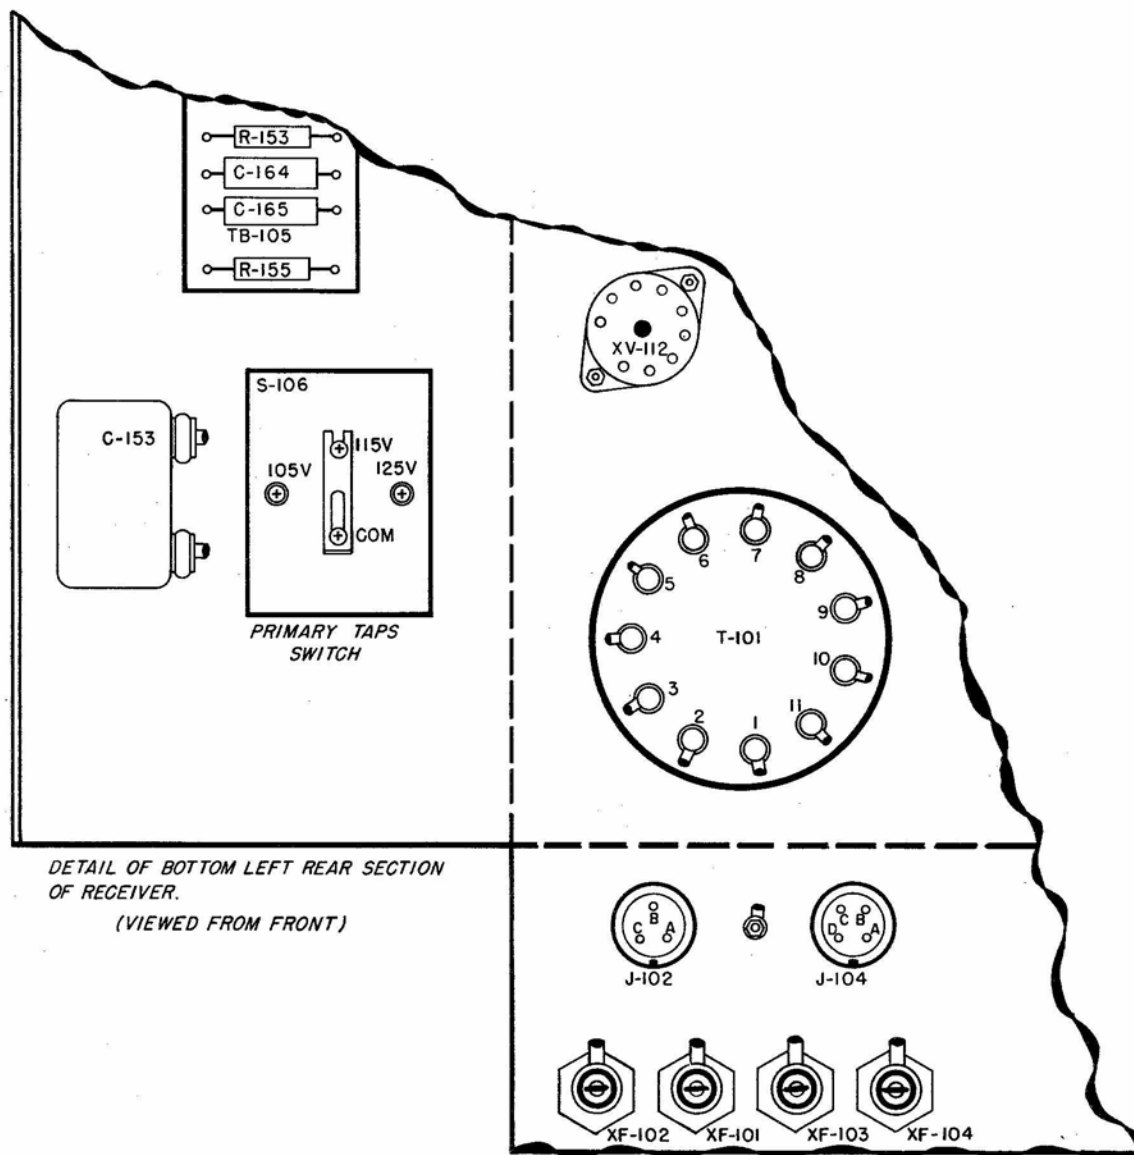

Figure 3-6. Detail View of S-106
(1) POWER CONNECTION.—In order to effect power connection to the receiver the A.C. power cable must be fabricated to its connector. Select a suitable length of two-conductor power cable such as Navy type MCOS-2 and terminate one end in a connector which will permit connection to the A.C. supply lines used in the installation. A.C. plug P-102, a type AN 3106-14S-7S connector is then attached to the other end of the power cable as illustrated in Figure 3-4. Connect one conductor to pin A of P-102 and the other conductor to pin C. Completely remove the chassis from the cabinet as described in paragraph 1, this Section and locate Primary switch panel S-106 underneath the chassis. Determine the supply voltage of the installation and connect the movable link on S-106 to the position corresponding to the available supply voltage. Proper placement of the link is accomplished by loosening the two screws which secure the link and loosening the screw corresponding to the correct voltage position. Each of the terminals on S-106 is marked to indicate the voltage with which it is to be used, either 105, 115 or 125 volts AC. Slide the link back along the direction of its slot until the link is free to pivot about its retaining screw. Slide the forked end of the link under the screw corresponding to the correct voltage setting and tighten all screws securely. Replace the chassis into the cabinet. The A.C. line cord may now be connected between the A.C. supply and the receiver A.C. input connector, J-102. (See Figure 3-6.)
(2) EXTERNAL AMPLIFIER CONNECTIONS.—The R-302/URR-22 receiver is fitted with an audio output receptacle, J-104, which is mounted on the rear of the chassis. J-104 is a type AN 3102A-14S-2P connector which is used when it is desired to connect external apparatus to be driven by the receiver audio circuits.